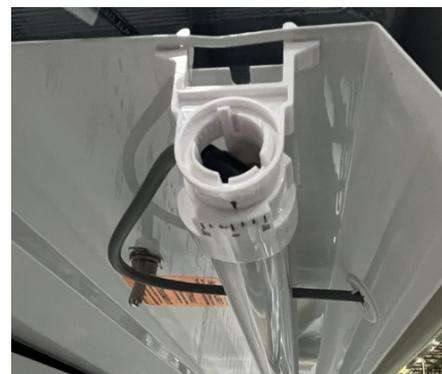

Fig. 26 Squeeze the latching clips and pull the luminaire free
1. Squeeze plastic clips on the four-pin connector at the end of the luminaire, then pull free of the receptacle (Fig. 26).